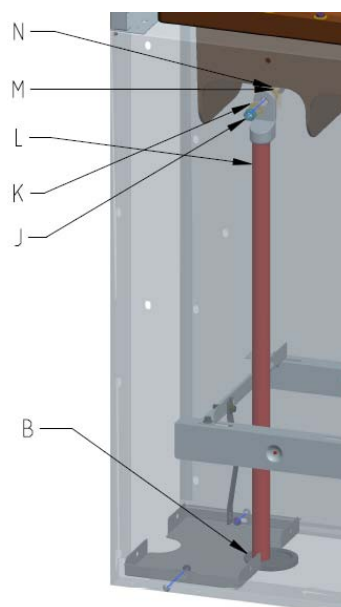

Figure 18: Assembly of cable
- Unscrew the hexagonal tap bolts, for every cable support (Figure 18 H), a couple of turns to regulate the depth of the cable support.
- Disassemble, for every cable support, the clamp strip (Figure 18 I), or release it on one side.
- Install the rear bottom plate (Figure 18 A).
- Attach the bottom plate on both sides of the frame using the self-locking hexagonal flange bolt (Figure 18 D) and the self-locking hexagonal flange nut (Figure 18 E).